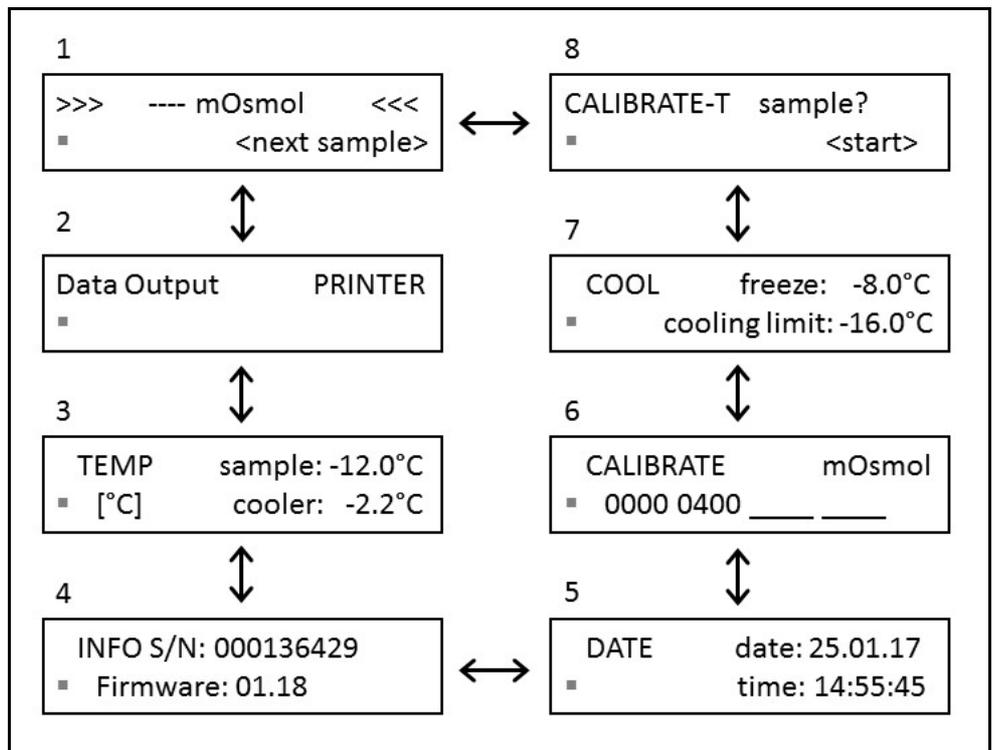

Fig. 8 Menu path
After completion of the self-test, the display shows the measurement screen (see Fig. 8 screen 1). The cursor is placed on the rhombus field. As shown in Fig. 8, it will take you to the relevant menu points.
1. Select CALIBRATE-T in the osmometer menu (screen 8 in Fig. 8).